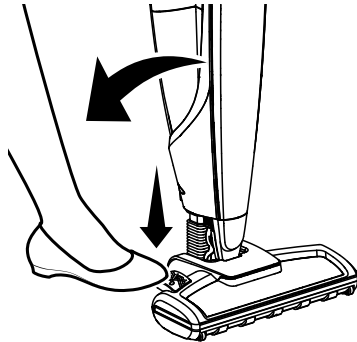

Fig.22
- The brush cleaning system will remove most debris accumulated on the brush roll. To clean the brush roll with the brush cleaning system step on the button as illustrated while the brush roll is spinning (Fig.22).